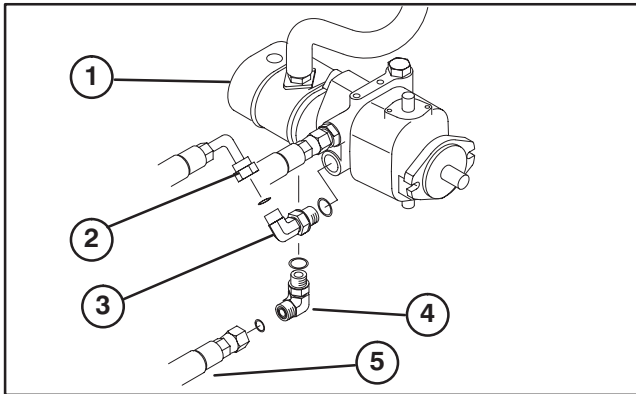

Figure 6
1. Install new hydraulic hose to 90° fitting on bottom of hydrostat/gear pump and to fitting on valve block (Fig. 6). End of hose with 45° hose end to be secured to valve block fitting. Make sure hose is oriented upward, so it clears cutting unit when in transport position.
2. Install new 90° fitting to front of hydrostat/gear pump. Fitting to be oriented upward 45°, as shown in figure 6.
3. Install new hydraulic hose to 90° fitting on front of hydrostat/gear pump and to fitting on traction circuit tube (Fig. 6). End of hose with 90° hose end to be secured to fitting on hydrostat/gear pump.